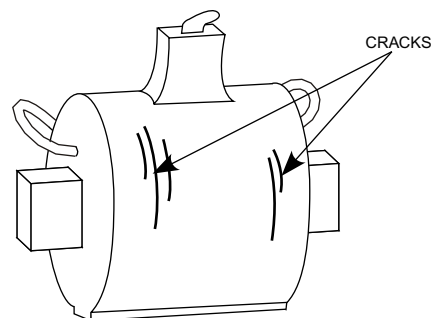

Figure 3.3.5
- A. Inspect coil for visible radial cracks. If any cracks are evident, replace coil. (See Figure 3.3.5).